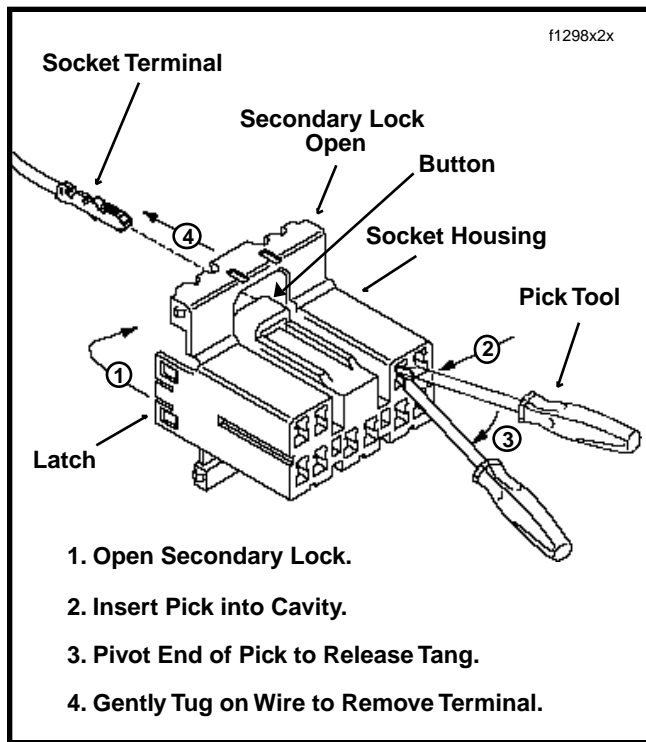

Figure 3. Release Tang and Back Out Terminals
3. See Figure 3. Depress the button on the socket side of the connector to pull apart the pin and socket halves.
See Figure 3. Before performing the following procedure carefully check the socket connector housing. If the socket connector housing has a yellow or green paint dab, the wires already have been interchanged.
4. See Figures 3 and 4. Follow instruction (1) given in Figure 3 to open the secondary locks.